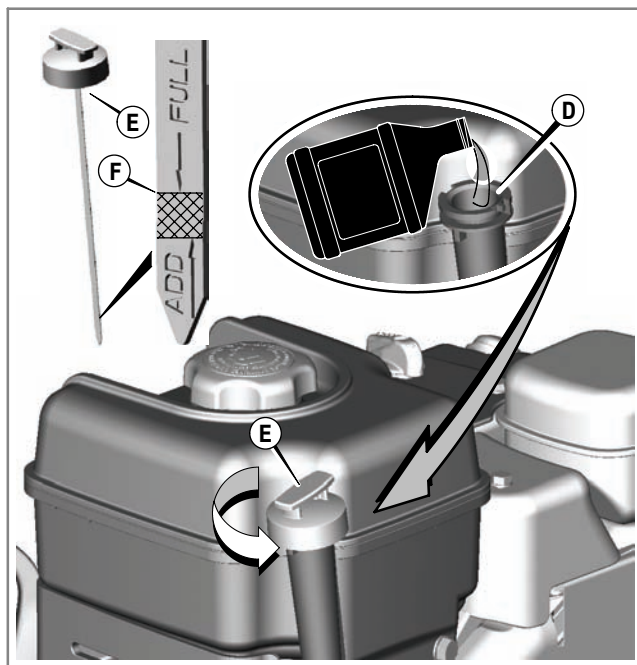

Figure 19
1. Remove the dipstick (E, Figure 19) and wipe with a clean cloth.
2. Pour the oil slowly into the engine oil fill (D). **Do not overfill.** After adding oil, wait one minute and then recheck the oil level.
4. Remove the dipstick and check the oil level. Remove and check the oil level. Oil level should be at the FULL mark (F) on the dipstick.